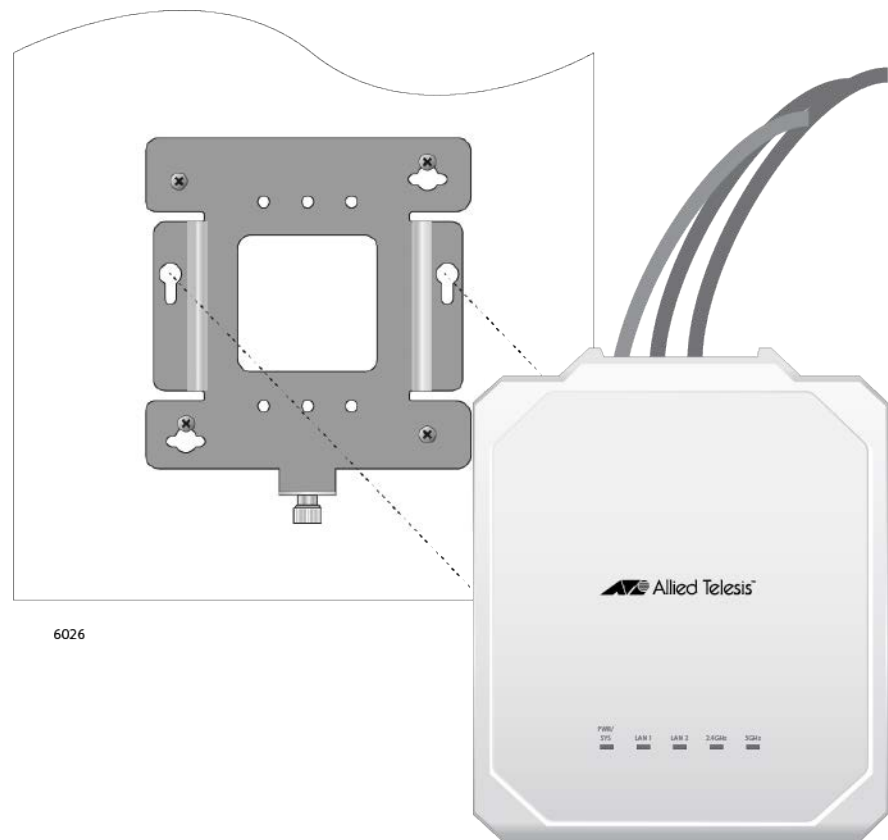

Figure 25. Installing the Access Point on the Mounting Bracket
1. Align the bottom of the access point over the bracket so that the two screws on the bottom of the device fit into the bracket keyholes. Refer to Figure 25. (These are the two access point chassis screws installed in “Pre-fitting the Mounting Bracket on the Access Point” on page 32.)